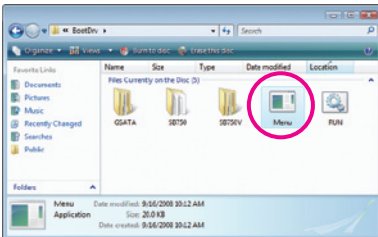
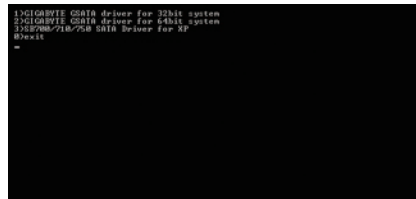

Figure 2
Figure 3
- 2: From your optical drive folder, double click the Menu.exe file in the BootDrv folder (Figure 2). A Command Prompt window will open similar to that in Figure 3.
- 3: Insert the blank formatted disk. Select the controller driver by pressing the corresponding letter from the menu and press <Enter>. For example, from the menu in Figure 3, to install Windows XP to the RAID/AHCI hard drives, select **3) SB700/710/750 SATA Driver for XP**.